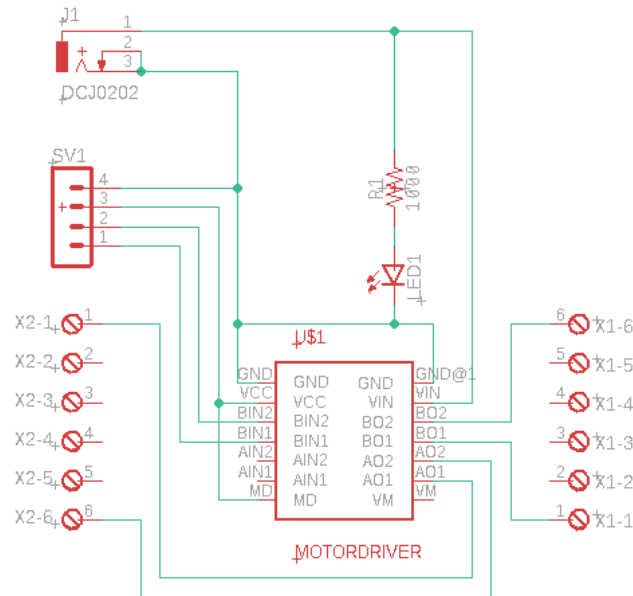

Figure 8: Example schematic
3. Rearrange the components by moving, rotating, and mirroring them to match the example shown in Figure 8.
4. Using the net tool  connect the pins to match the example shown in Figure 8.